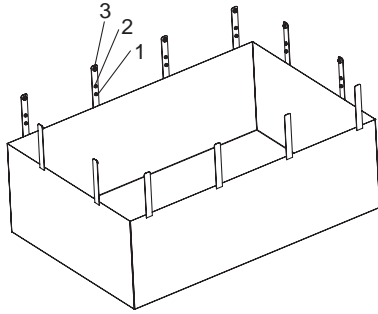

Fig.10
Figure 10 shows the Tarp Liner design. Item 1 and 2 are the male snap buttons, while item 3 is the female snap button.